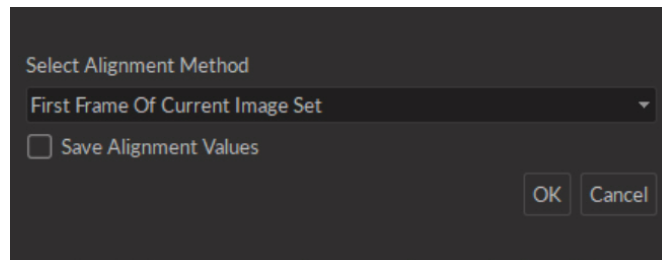

Figure 4.6: Align Images Window
- The **Align Images** function aligns the image stack to the user-defined key frame. See section 4.1.3 for computational details. Selecting this button will open the **Align Images** window (Fig. 4.6). By selecting the **Save Alignment Values** checkbox, the image alignment values will be preserved when saving the processed images. There are 4 different methods available.